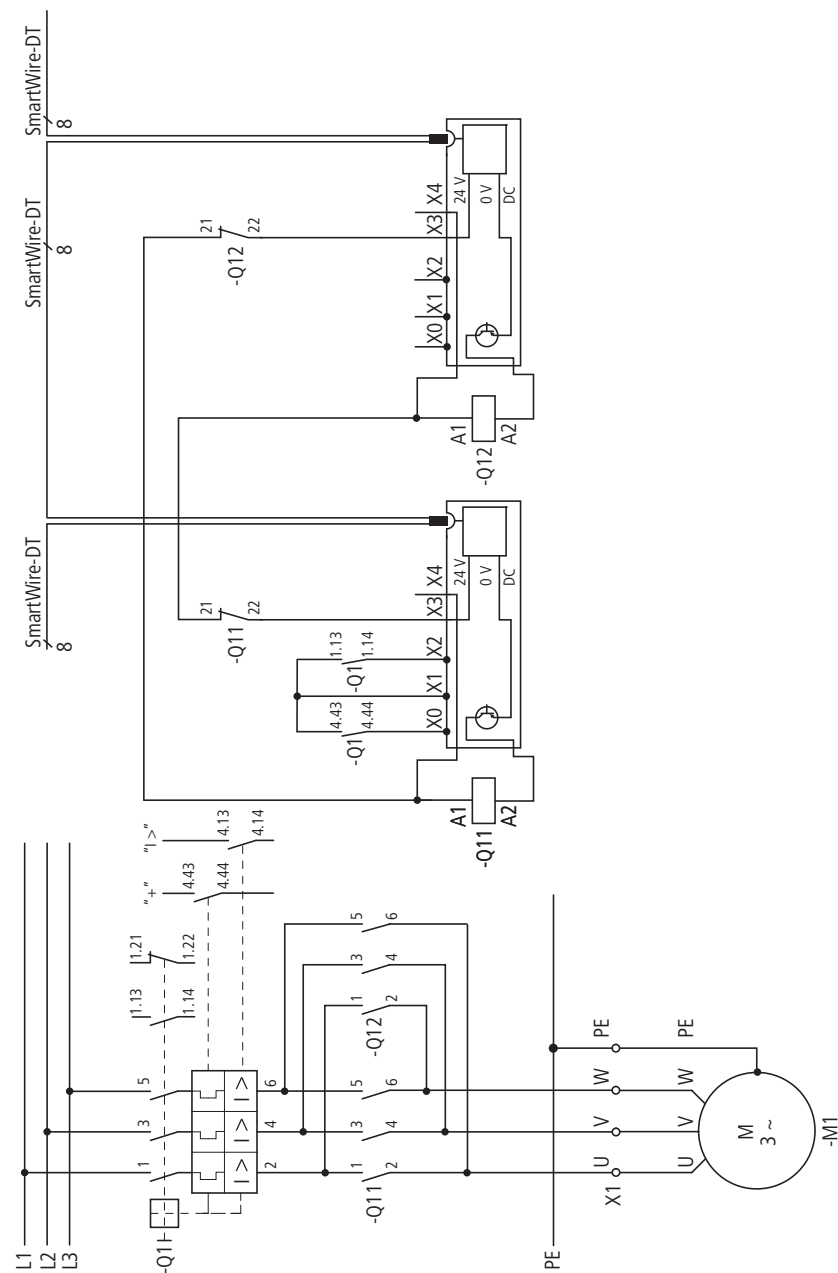
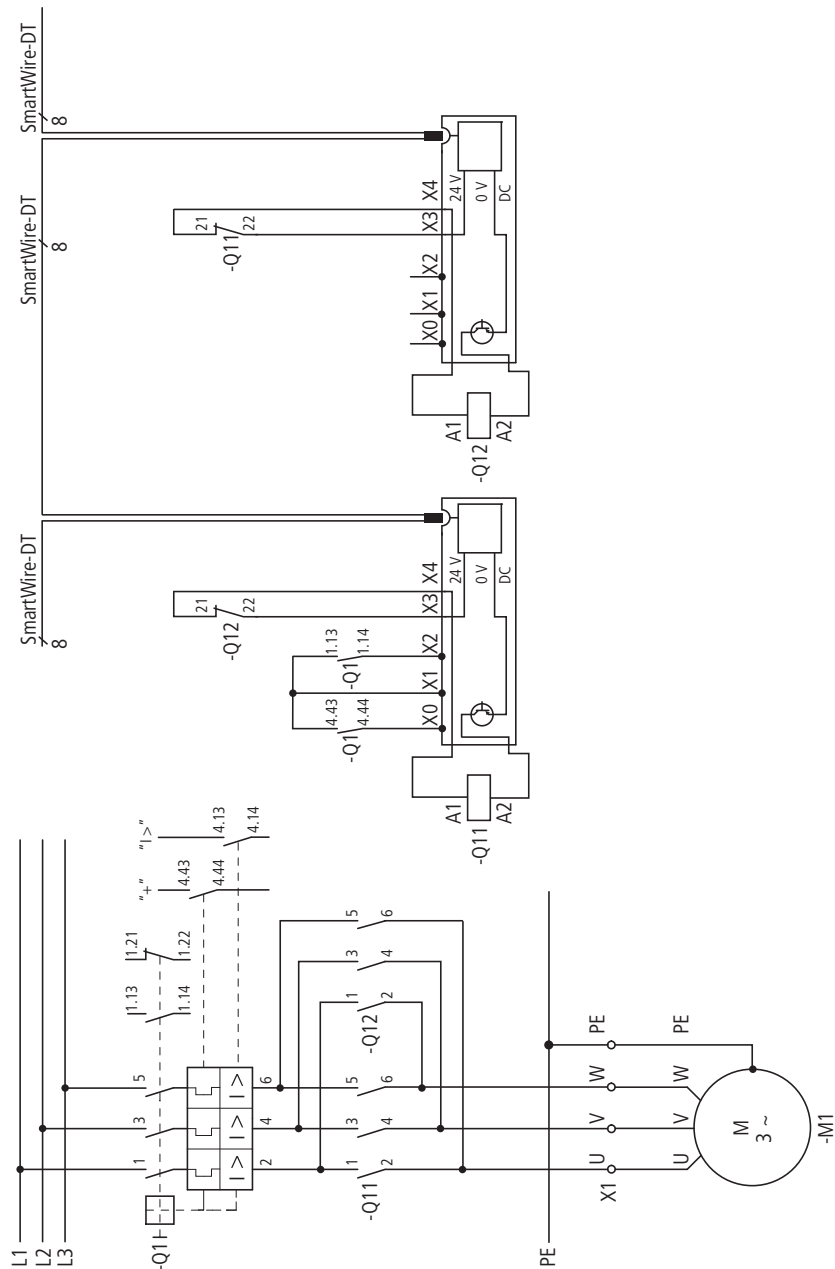

Figure 29: Circuit diagram of the reversing starter in combination with DILM12-XEV
Figure 30: Circuit diagram of the reversing starter
The "Enable" ⑧ auxiliary contact is factory fitted with a link, → Figure 30. For the electrical interlocking of the two contactors this link is removed and the auxiliary breaker (contacts 21-22) of the other contactor is linked in as a potential-free contact.
In combination with the jumpers DILM12-XEV the circuit Fig. 29 should be used. On the other hand, an electrical interlock with wire jumpers should be implemented according to the circuit Fig. 30.
Besides the special features described in the foregoing subsection "Direct starters", it must be taken into account that reversing starters in the North American market must be equipped in addition with a mechanical and electrical locking device. The electrical locking is realized via the connection auxiliary contact "Enable" → Figure 30, (8).